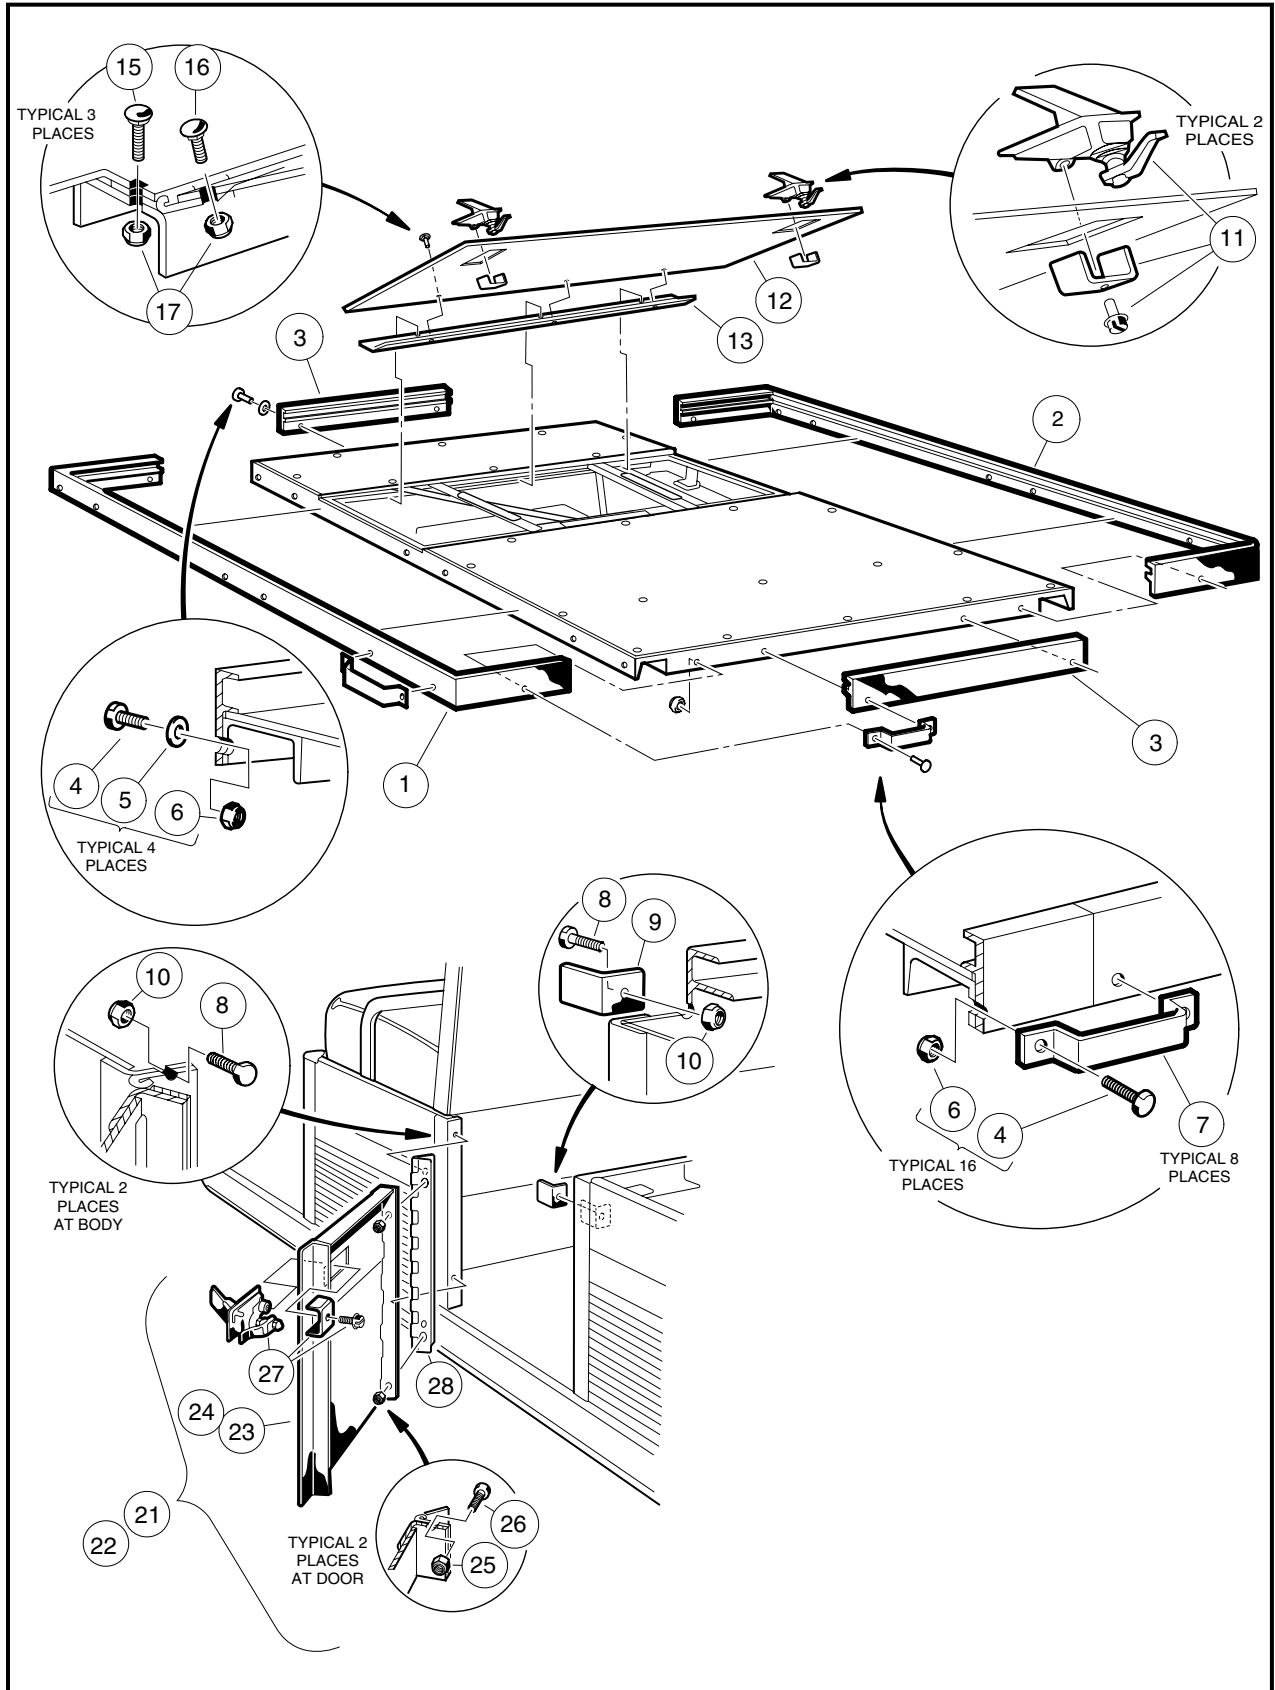

Figure 4-4 Flat Bed Trim, Access Door and Side Door - Turf 6 and Carryall 6
1. Release access door latches and open access door (12) **(Figure 4-4, Page 4-9)**.
4. Remove two 5/16 x 1 bolts (4), flatwashers (5), and locknuts (6) from trim strip (3) on front edge of bed. Remove trim strip from bed **(Figure 4-4, Page 4-9)**.
5. Remove two 5/16 x 1 hex head bolts (4) and locknuts (6) from each of the two handles on rear edge of bed. Remove the two handles (7) and rear trim strip (3) (**Figure 4-4, Page 4-9**).
6. Remove one 5/16 x 1 hex head bolt (4), flat washer (5), and locknut (6) from front of left hand trim strip (1) (**Figure 4-4, Page 4-9**).
7. Remove two 5/16 x 1 hex head bolts and locknuts from each of the three stake side brackets (7) on left hand trim strip. Remove brackets and trim from bed (**Figure 4-4, Page 4-9**).
2. Tighten bolts (4) to 8 ft-lb. (10.8 N·m) **(Figure 4-4, Page 4-9)**.
1. Raise levers on left and right hand door latches (11), rotate them 180 degrees and open access door. Rest door against seat back support panel **(Figure 4-4, Page 4-9)**.
2. Remove three locknuts (17) and bolts (16) from access door side of hinge **(Figure 4-4, Page 4-9)**.
3. Remove access door from cargo bed **(Figure 4-4, Page 4-9)**.
1. Install access door in the reverse order of removal **(Figure 4-4, Page 4-9)**.
2. Tighten nuts (17) to 8 ft-lb. (10.8 N·m) **(Figure 4-4, Page 4-9)**.
3. Close access door and secure both door latches (11) **(Figure 4-4, Page 4-9)**.
1. Lift door latch lever (27), rotate 180 degrees, and open side door **(Figure 4-4, Page 4-9)**.
2. Remove two 1/4 x 5/8 bolts (26) and locknuts (25) from door hinge **(Figure 4-4, Page 4-9)**.